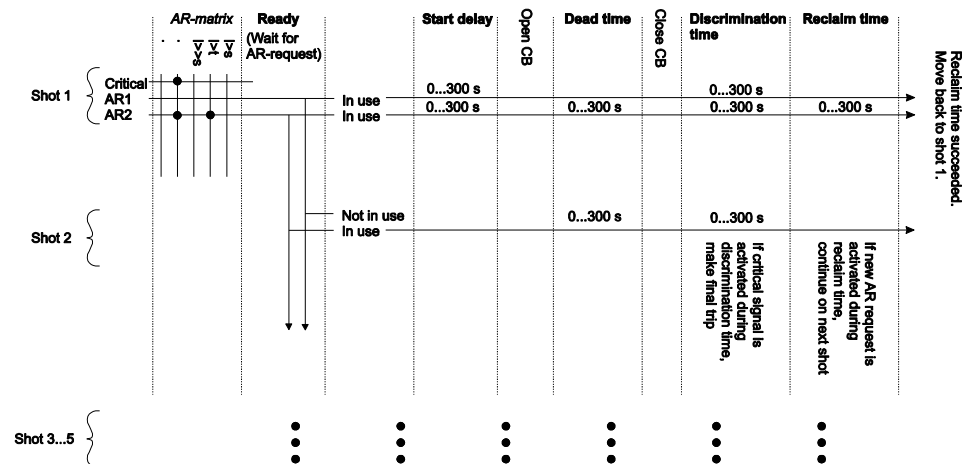

Figure 8.7-1 Auto-reclose matrix
The auto-reclose (AR) matrix in the following Figure 8.7-1 describes the start and trip signals forwarded to the auto-reclose function.